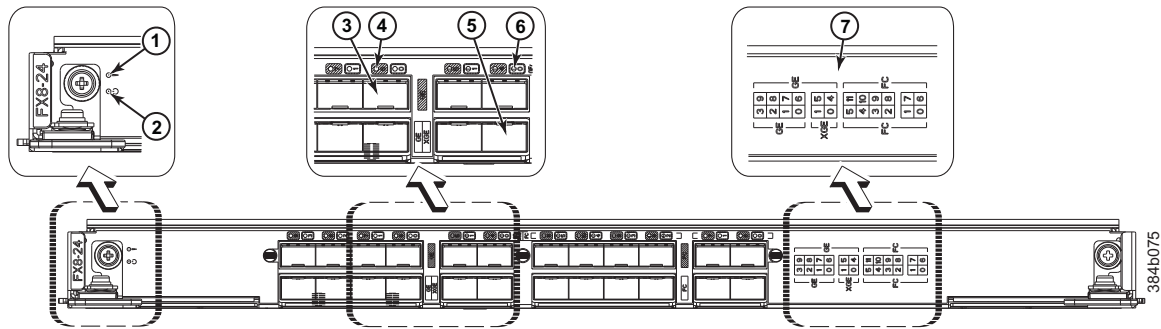

Figure 28. FX8-24 extension blade
- Figure 28 on page 62 illustrates the FX8-24 extension blade